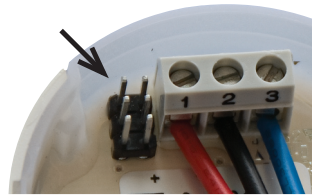

Fig. 10
2. Change sensor setting, first remove the black pin cap. Take care not to lose the black pin cap (See Figure 10).